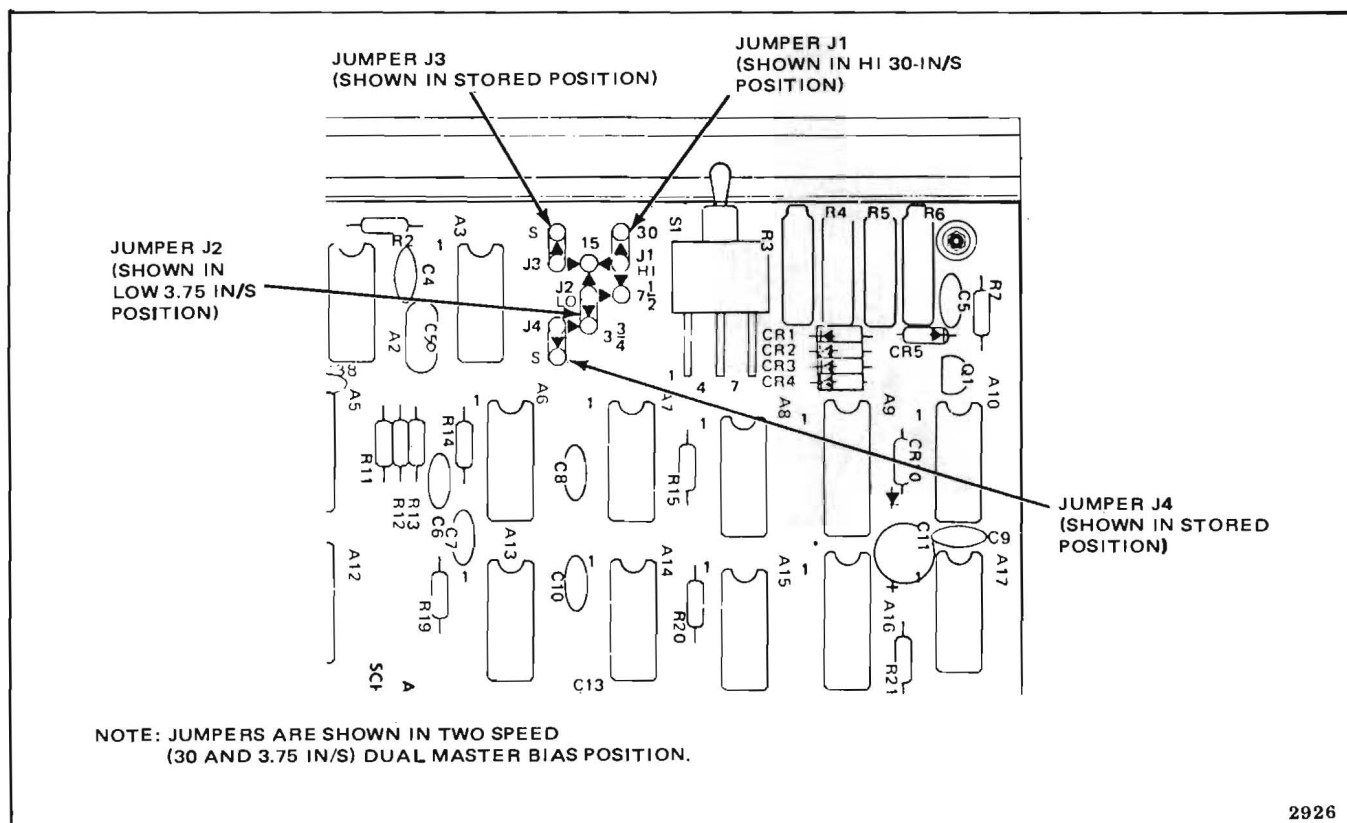

Figure 5-6. Speed/Bias Selection Jumpers, Audio Control PWA 5
3. Position HI speed jumper J1 to the desired high speed: 30, 15, or 7.5 in/s position (Figure 5-6).
3. Position jumper J1 to the 30-in/s position (Figure 5-6).